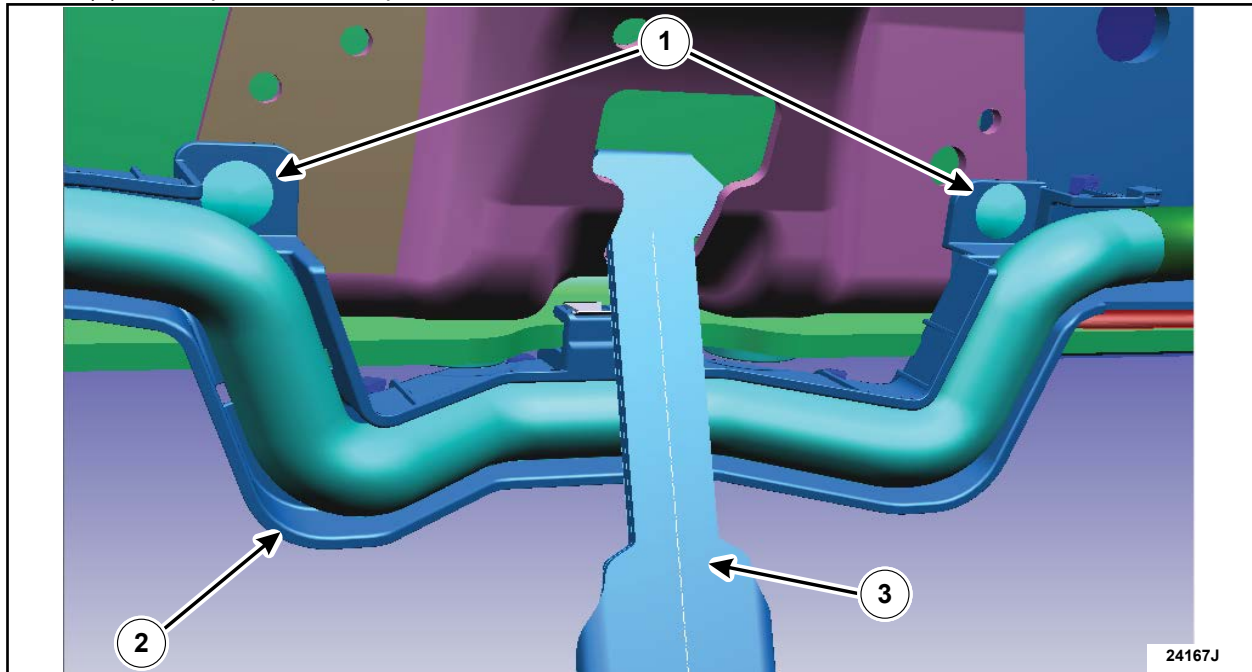

FIGURE 24
1. From the left hand side lower frame rail, remove the harness shield push pins as shown in Figure 24.